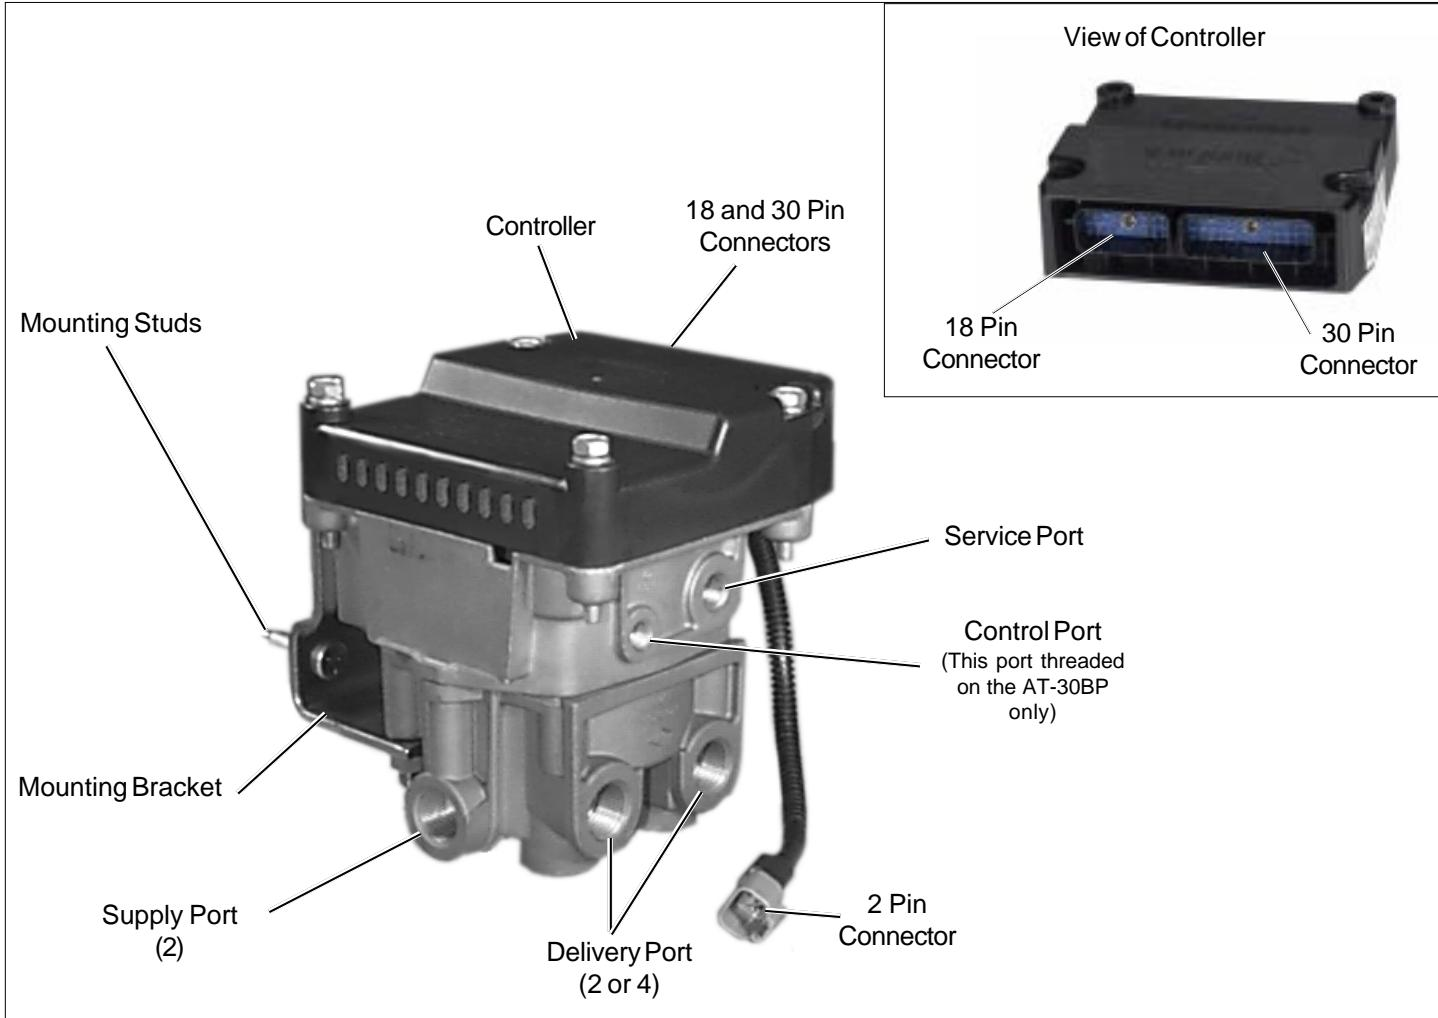

FIGURE 1 AT-30 and AT-30BP AntiLock Traction Assembly
3. Disconnect all three (3) electrical connectors (Refer to figure 1)
4. Refer to figure 1 when installing the AT-30 or AT-30BP wire harness assemblies. Identify each connector and note the position of locating lugs and grooves on the connector halves. DO NOT FORCE CONNECTOR HALVES TOGETHER.